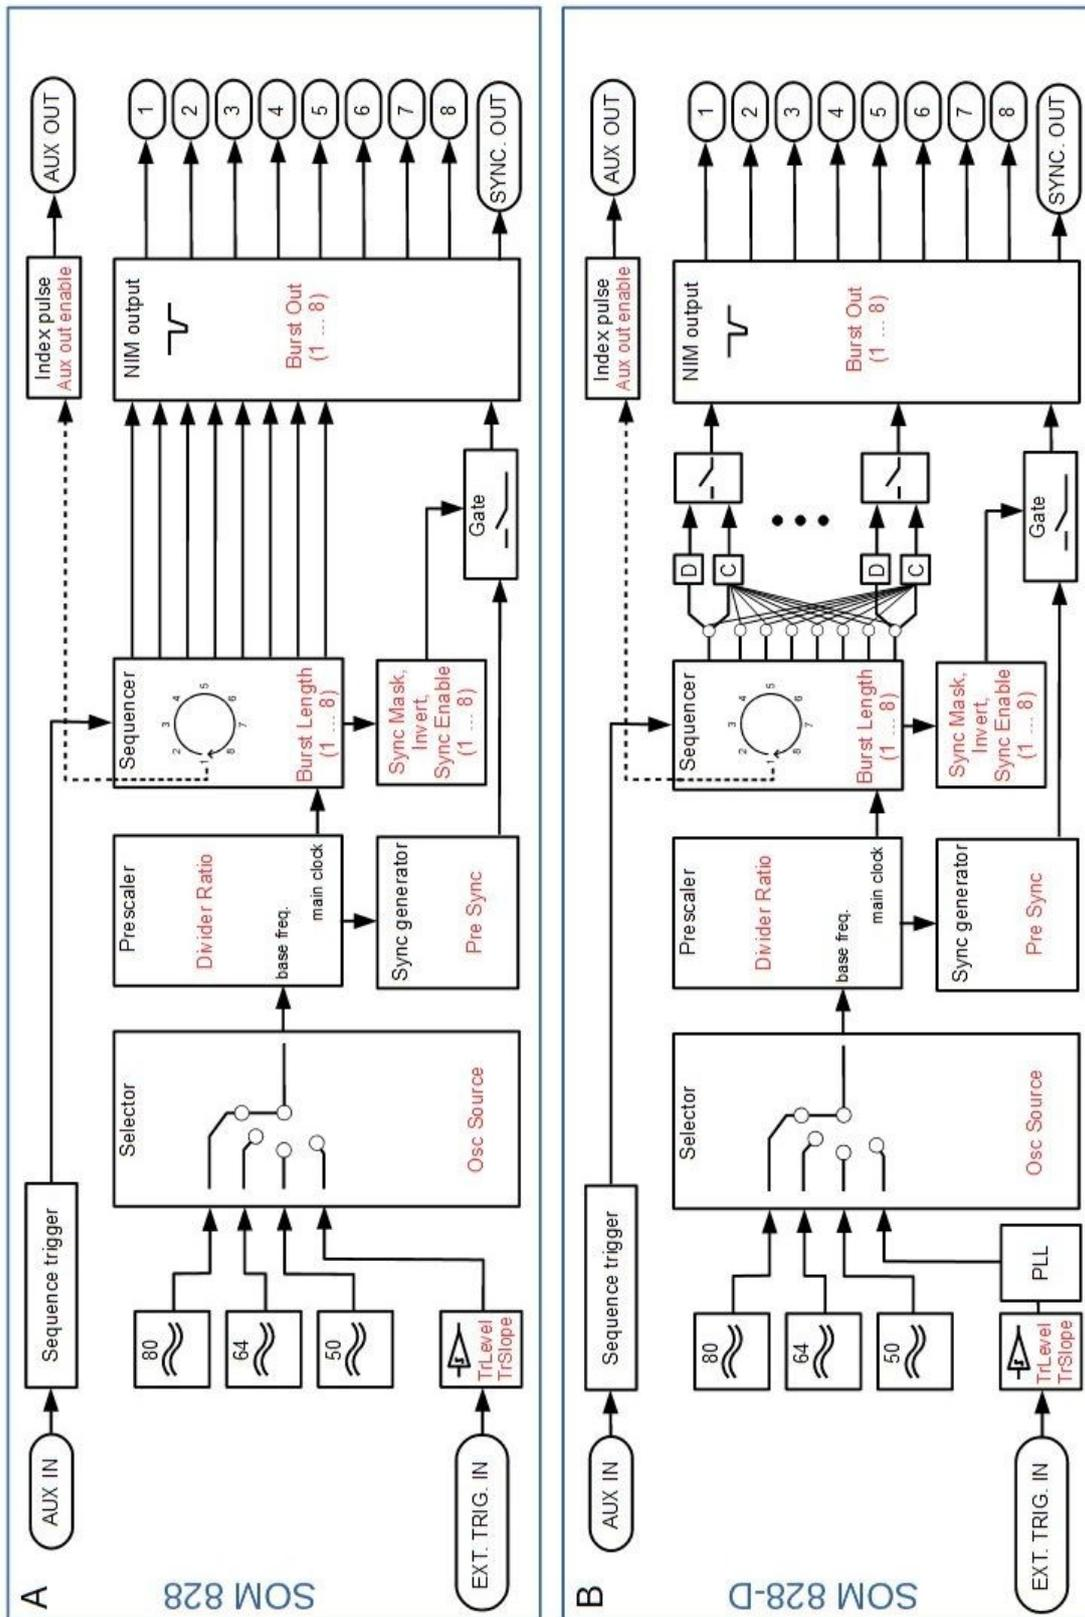
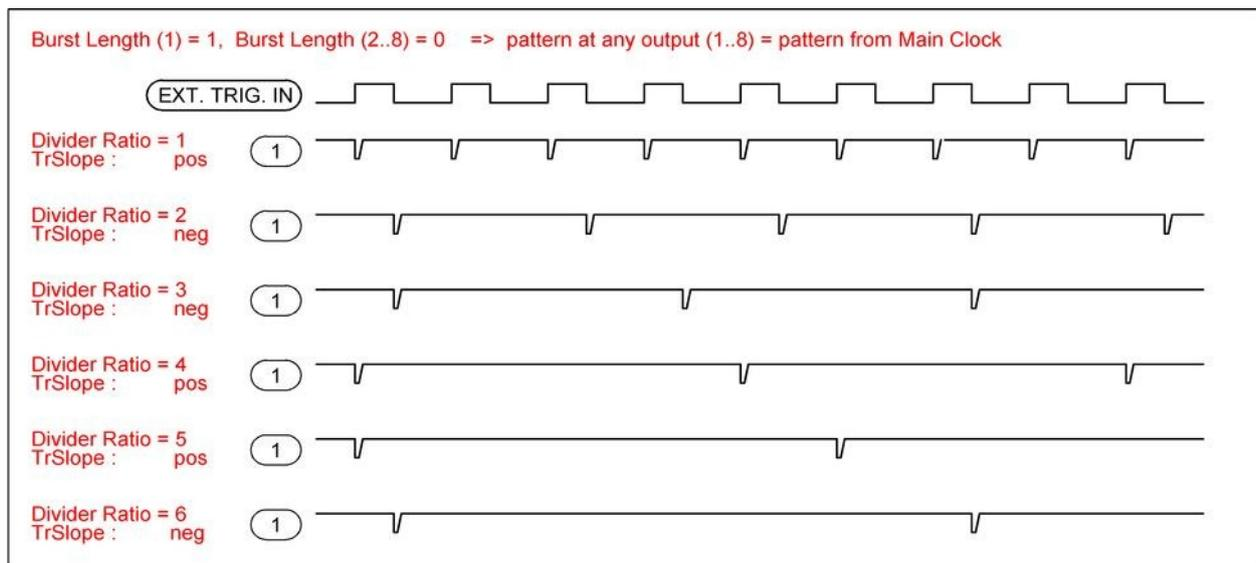

Fig. 24: Logic function block scheme for SOM 828 (A) and SOM 828-D (B)
Fig. 25: Pattern from main clock at various divider settings
The oscillator module **SOM 828** is composed of several basic function blocks, as schematically depicted in Fig. 24 (A). The scheme shows the logical interconnections of the functional modules and their (GUI / API) parameters, but does not represent the actual electrical realization.
The oscillator module SOM 828-D shares many features and functional blocks with the SOM 828. It contains, however, a few additional blocks in series to the sequencer allowing for advanced functionality such as combining of sequences from any number of the 8 burst channels into an output channel or the introduction of time delays in a specific channel. The logical interconnection of the modules and their GUI / API parameters are shown in Fig. 24 (B). Please note that this scheme does not indicate the actual electrical realization.
5. A burst combiner (shown as small boxes labeled with 'C' for 'combiner unit' in them between the sequencer and NIM output blocks in Fig. 24) allowing to group pulse sequences from any burst channel into a specific output channel. Each burst pattern will be synchronized with their original burst channel (i.e., these pulses will trigger together with the original burst channel). It is also possible to mask all but the first pulse of each pulse pattern originating from combined burst channels in a given output channel.
6. Alternatively, a delay unit (labeled with 'D' in Fig. 24) allows for introducing a software controlled delay into any output channel relative to the other channels by up to  $\pm 1$  ms. This delay can be individually set for each channel and adjusted through the software GUI. Please note that a channel can only be used either for burst combiner or delayer, but not both at the same time.
The **oscillator source (OSC source)** can be chosen from either the 3 internal crystal oscillators (running at 50 MHz, 64 MHz or 80 MHz) or from an external trigger source (see Fig. 24). The chosen source is called **base oscillator** and provides the base frequency.
When using an external source, both trigger level and trigger slope must be set according to the used signal (parameters **TrLevel** and **TrSlope** in Fig. 25).
To generate slower main clock rates, the base frequency can be divided by any integer number between 1 and 255 (**SOM 828**) or 65535 (**SOM 828-D**). This is done by the prescaler (see Fig. 24). This stage works by suppressing  $n-1$  pulses before the next pulse passes the prescaler, where  $n$  is the divider ratio. That way the base frequency can be divided by 2, 3, 4, ... and so on. Figure 25 illustrates the function of the prescaler when driven from an external triggering signal.